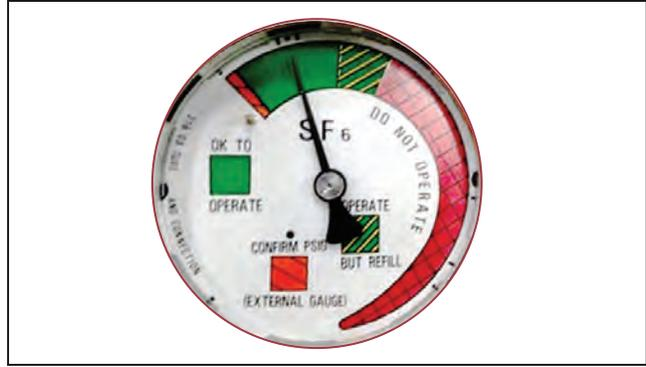

Figure 10. SF₆-gas pressure gauge.
STEP 1. Make sure the insulating-gas pressure gauge is in the green zone (or the green and yellow striped zone) by lifting the viewing window cover under Way 1. See Figure 10.